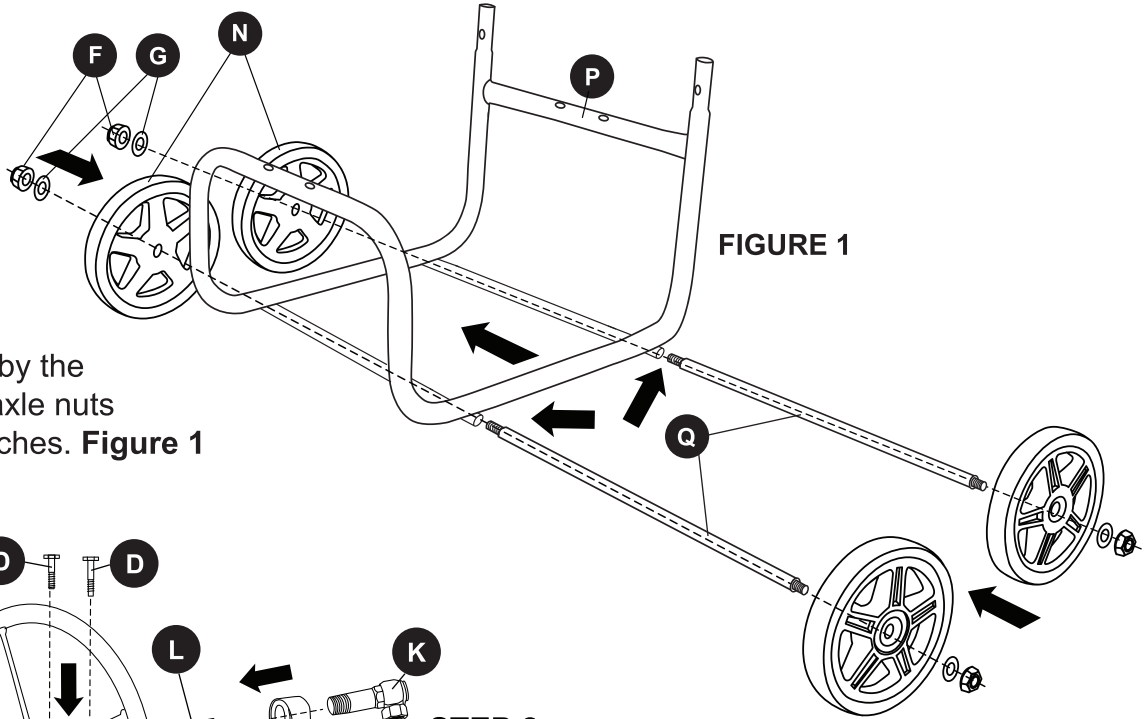

FIGURE 1
Locate the frame (P) and place it on a flat surface. Insert the wheel axles (Q) through the tires (N) and into the frame, as shown. Slide the washers (G) onto the wheel axles, followed by the axle nuts (F); tighten axle nuts using adjustable wrenches. **Figure 1**